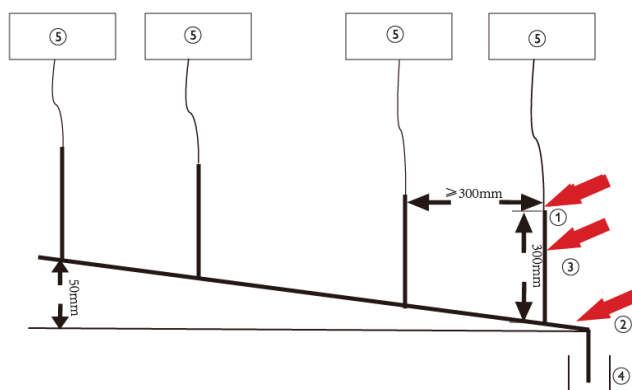

Figure 5-7 Pipe installation requirements for waste direct-discharge
- Position the common pipes at an angle, with its upper-stream section is 50mm higher than the lower-stream section, so that the waste automatically flows down into the sewage, refer to **Figure 5-7 Pipe installation requirements for waste direct-discharge**;